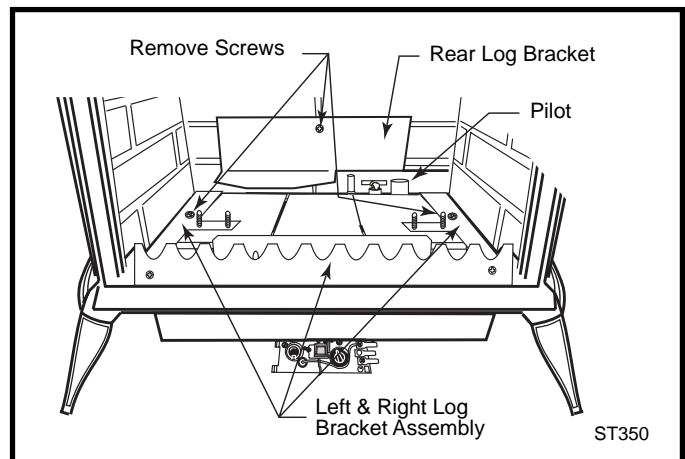

Fig. 69 Remove rear log bracket and left and right log bracket assembly.
5. Remove the rear log bracket by unfastening the screw. (Fig. 69)
6. Remove the right and left log bracket assembly by unfastening the two screws which hold the burner in place. (Fig. 69)
14. Locat pilot. (Fig. 69)